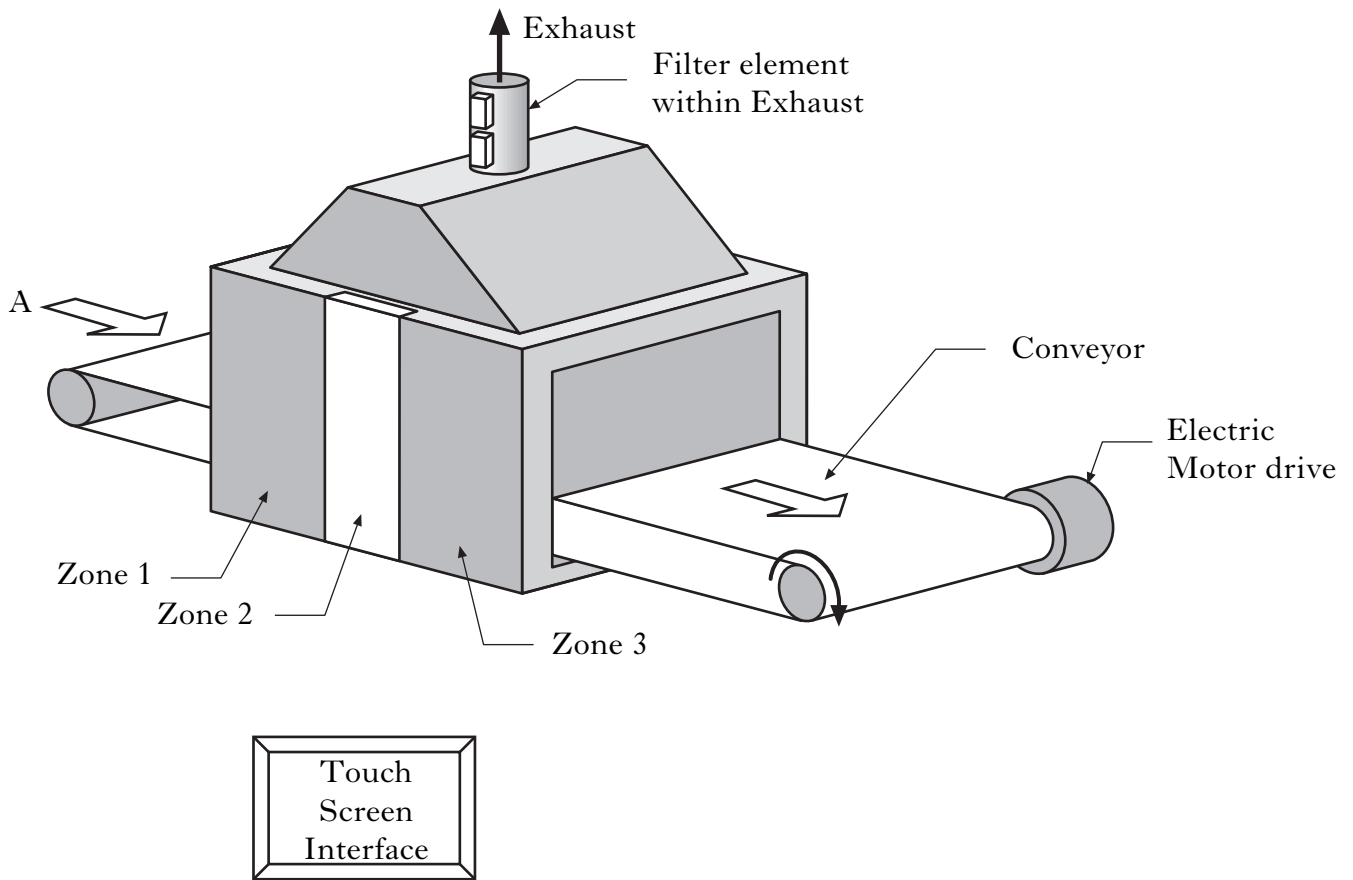

Figure Q13
- (e) Give **three** safety measures which could be included in the oven system shown in Figure Q13. **3**
- (25)**